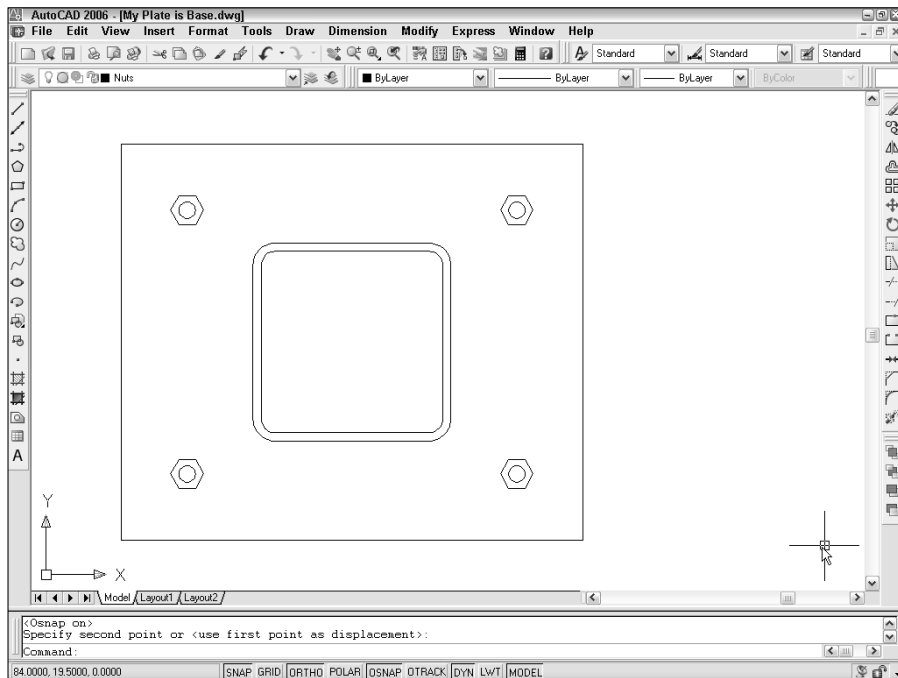

Figure 3-11:
8. Move the cursor to the right until the dynamic input tooltip shows a displacement of 6 units to the right, and then click (see Figure 3-11).
AutoCAD stretches the column and plate by the distance that you indicate and moves the anchor bolts that were completely inside the crossing window rectangle, as shown in Figure 3-11.